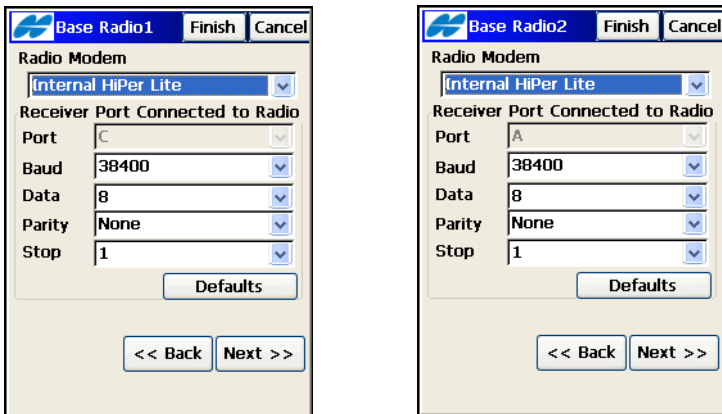

Figure 3-11. Base Radio Output
- **Next** – opens the **Base Radio** screen to set parameters for the chosen modem (Figure 3-10 and Figure 3-11 on page 3-13).
If Multiple Ports are set for peripherals (Figure 3-5 on page 3-6), several **Base Radio** screens display to configure the radio for data output, depending on the job configuration (Figure 3-11 on page 3-13).